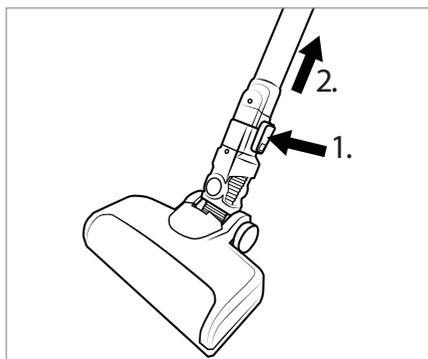

Fig. 12
- ◆ To remove the floor brush **21** from the suction pipe **23**, hold down the floor brush release button **22** and pull the suction pipe **23** off the floor brush **21** (see Fig. 12).